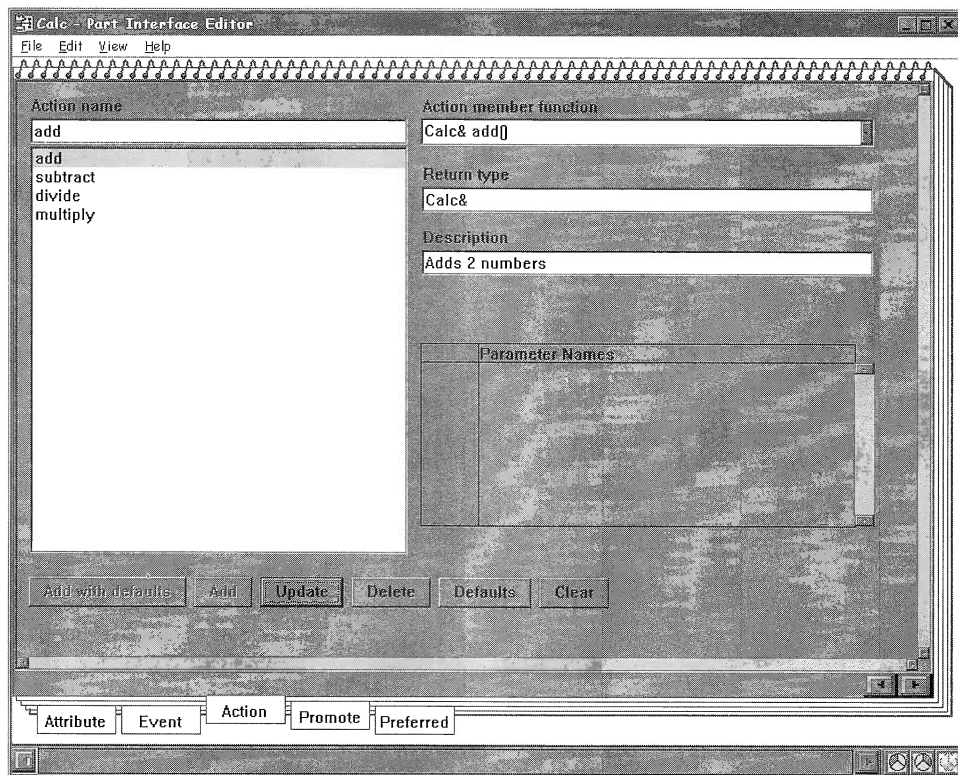

Figure 89: Action page of the Calc part PIE
- ❑ In the **Actions** page of the PIE as shown in Figure 89, add the actions listed in Table 4. Entering the information from the table and press the **Add** push button for each action.